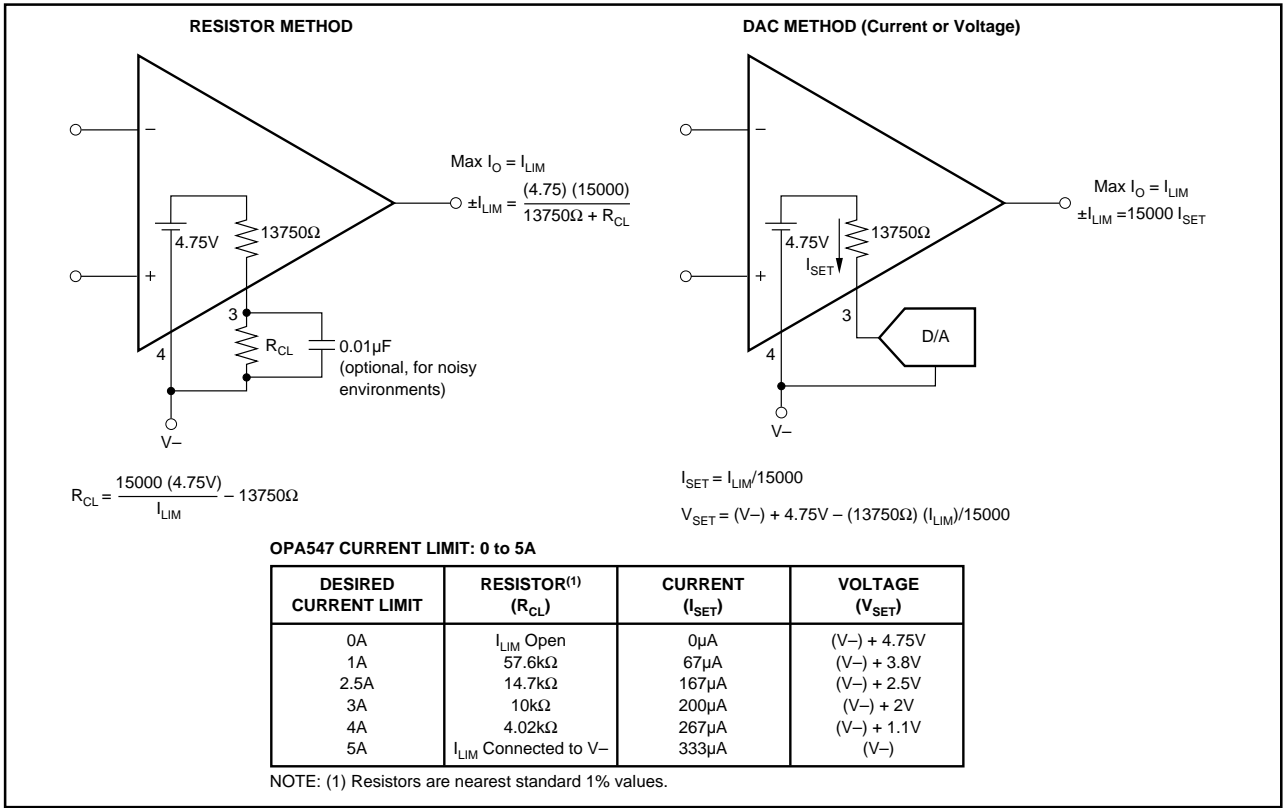

FIGURE 3. Adjustable Current Limit.
Figure 3 shows a simplified schematic of the internal circuitry used to set the current limit. Leaving the I_{LIM} pin open programs the output current to zero, while connecting I_{LIM} directly to V- programs the maximum output current limit, typically 5A.
NOTES: (1) Works well for $G < 10$. Input offset causes output current to flow between amplifiers with $G > 10$. Gains (resistor ratios) of the two amplifiers should be carefully matched to ensure equal current sharing. (2) As configured (I_{LIM} connected to V_-) output current limit is set to 10A (peak). Each amplifier is limited to 5A (peak). Other current limit values may be obtained, see Figure 3, "Adjustable Current Limit".